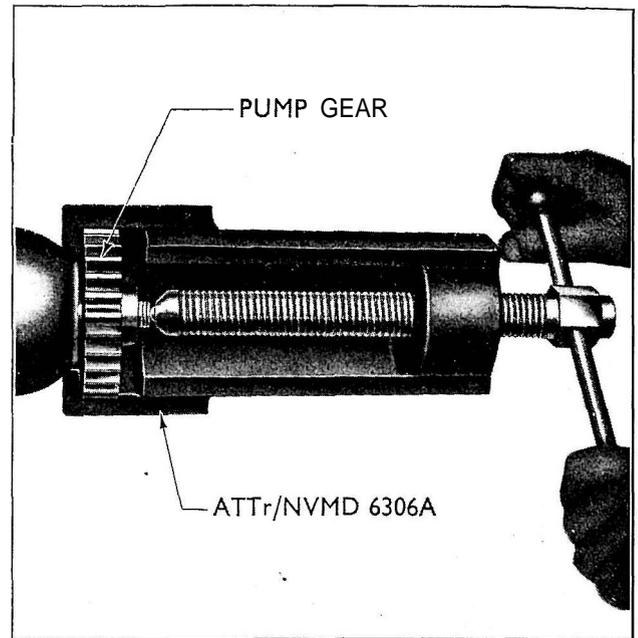

Fig. 201
- 1 Remove the drive gear from the tapered shaft, after first straightening up the tabs on the locking washer and removing the nut. Next locate the gear remover (tool No. ATTr/NVMD 6306-A), and tighten up the centre bolt until the gear is removed, when the key may be detached. **Do not use shock methods or leverage.** (See Fig. 201.)